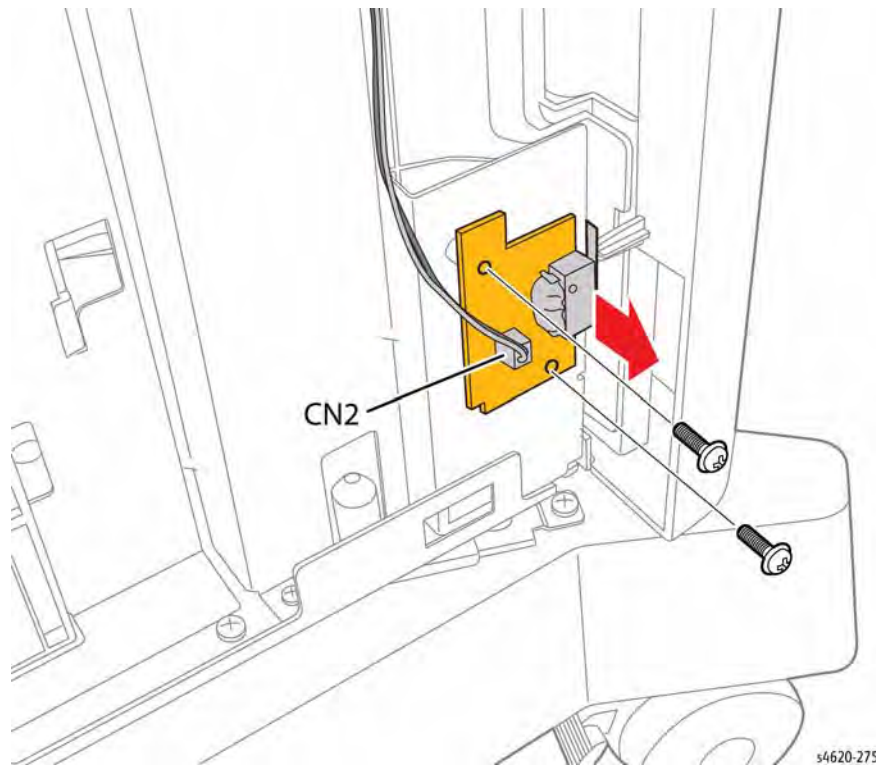

Figure 1 Remove the Front Door Interlock Switch
4. Disconnect CN2 and remove 2 screws (metal) that secure the switch to the chassis, Figure 1.